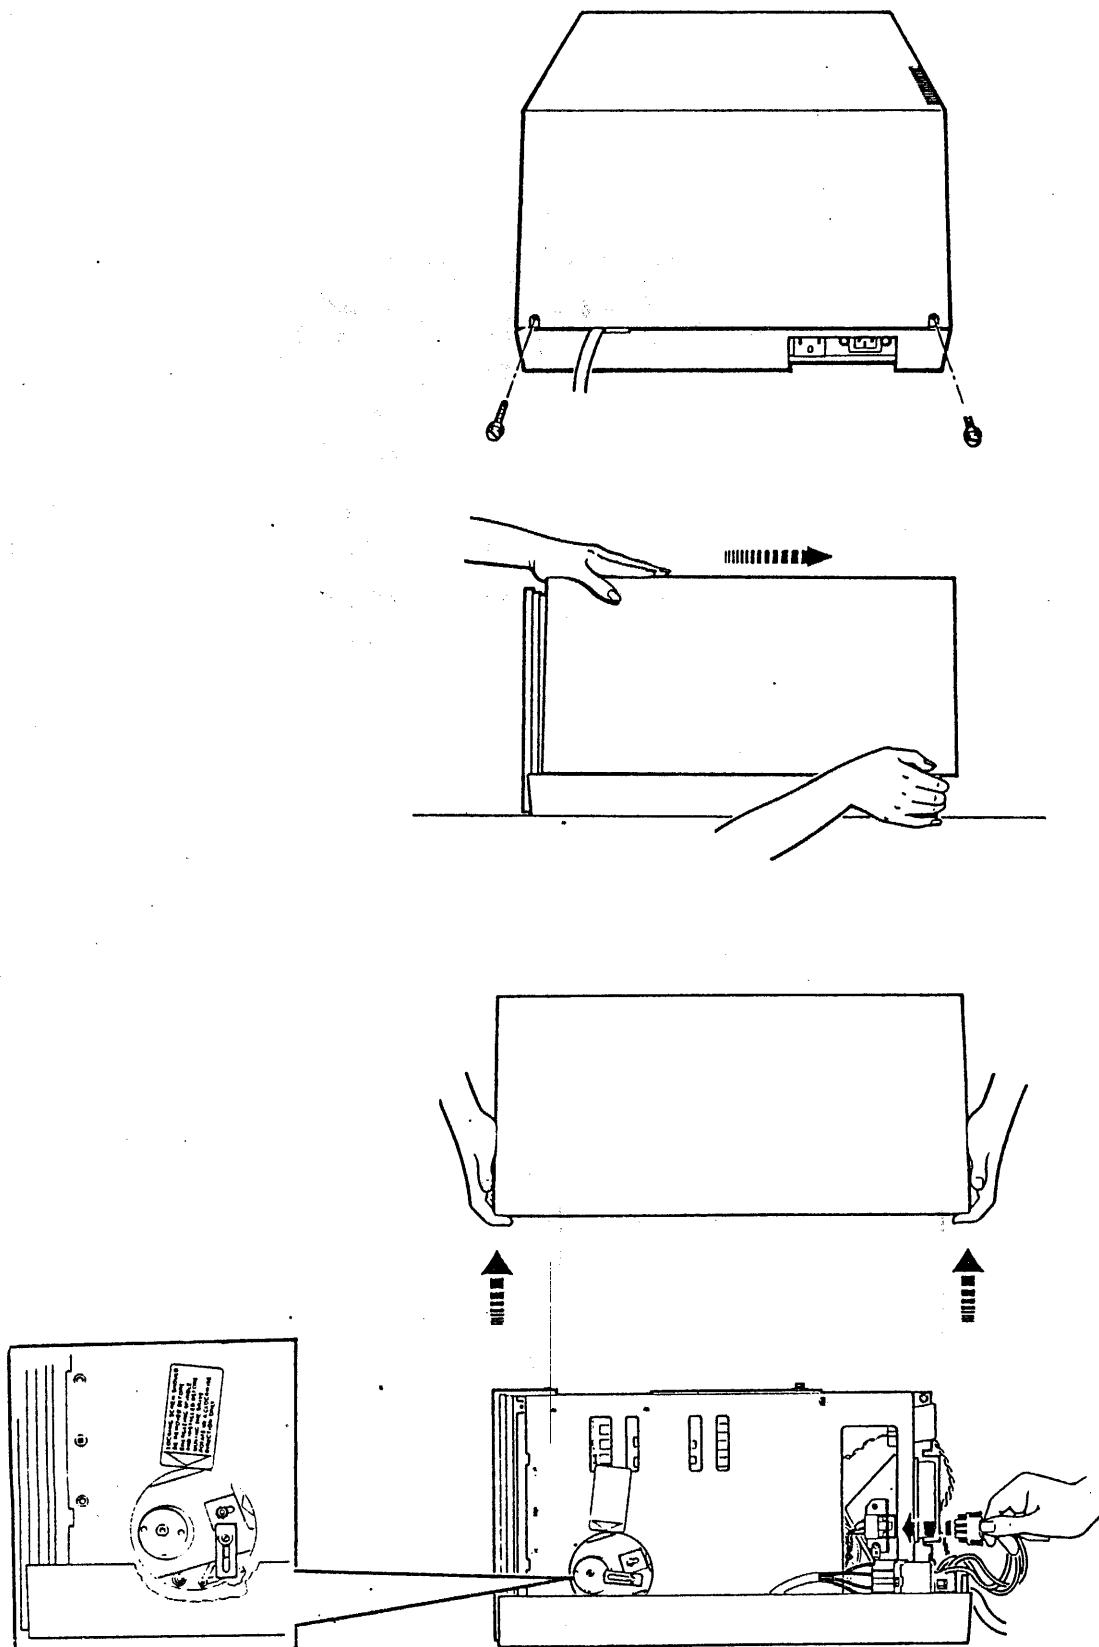

Figure 2-1 Fixed Drive Assembly (8")
- Remove (2) screws at rear of drive assembly.
- Slide top cover to rear, then lift cover off.(Fig. 2-1)
- With the top cover removed the two disk drives should now be exposed. The fixed drive is the outermost with the floppy drive between it and the Power Supply. As you stand facing the left-hand side of the unit (outer case of hard disk), note the circular aperture in the hard disk's cage, exposing an aluminum spindle hub (Figure 2-1). A fingered flange is inserted into a hole in this spindle hub. The fingered flange is a shipping restraint, called a spindle lock, which MUST be removed before power is applied to unit.
- Unscrew and remove the spindle lock. Invert it so the protruding finger faces outwards towards you, then screw it in this position (finger facing out) to the disk drive case in order not to lose it.(Fig. 2-1)
- When you have inverted the spindle lock, walk around behind the unit again. A white translucent jack (Figure 2-1) mounted in a metal standoff will be visible from the rear of the Winchester disk drive. This is a AC cable jack. A plug which obviously mates to this jack should also be visible at the end of a cable running from the rear of the floppy disk drive. Press the plug into the Winchester drive jack, making certain they are securely mated.(Fig. 2-1)
- Replace the top cover Do the reverse of removing the top cover, (Fig. 2-1). The long interlock screw should be placed in the left hand hole of the top cover when viewed from the rear.